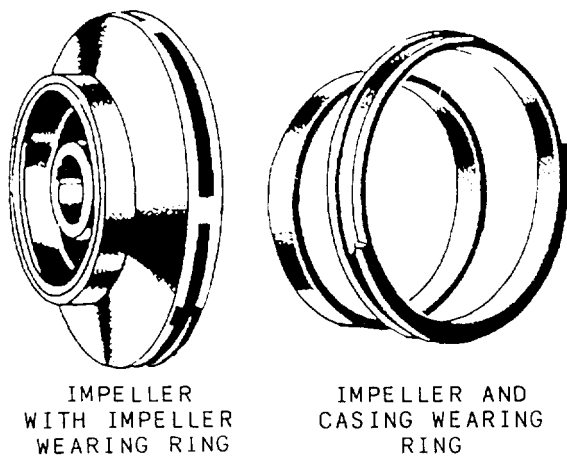

Figure 9-7.—Impeller, impeller wearing ring, and casing wearing ring for a centrifugal pump.
**Renewing Wearing Rings.**— The clearance between the impeller and the casing wearing ring (fig. 9-7) must be maintained as directed by the manufacturer. When clearances exceed the specified amount, the casing wearing ring must be replaced. On most ships, this job can be done